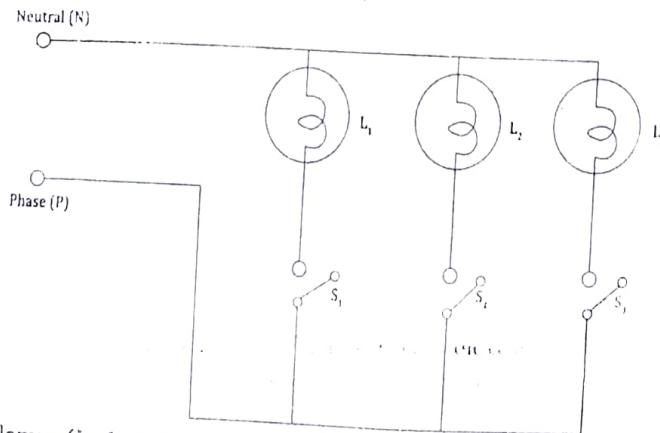

Fig.2.15 Three lamps (L_1, L_2, L_3) controlled by Separate switches (S_1, S_2, S_3).through 1φ -Supply.
2. **Three Lamps Controlled by Three Separate Switches :** The circuit diagram for 3-lamps controlled by 3-switches separately as shown in Fig.2.15. The Main elements are: Lamps (L_1, L_2, L_3) and Switches (S_1, S_2, S_3). In which the Neutral(N) is directly connected with the Lamp(L_1, L_2, L_3) and the supply or line or Phase(P) is connected by 3-switches (S_1, S_2, S_3) for Lamp1 Lamp2, Lamp3.